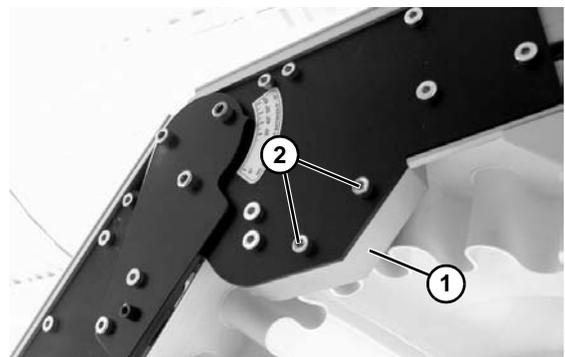

Figure 30
- Install knuckle guard (**Figure 30, item 1**) on both sides of knuckle with screws (**Figure 30, item 2**). Tighten screws to 25 in-lb (3 Nm).